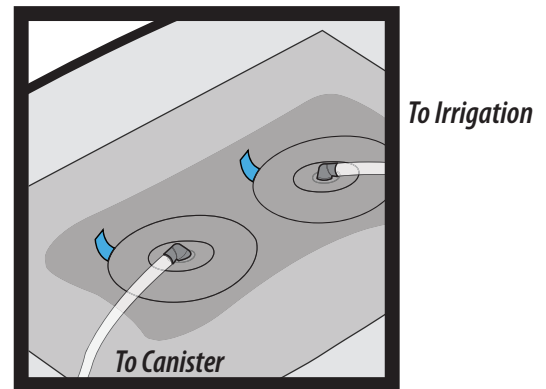

Figure 21
6. Peel the backing from the Irrigation SpeedConnect™ port and place over hole made in Step 6 (**Figures 19-20**). Using the tips of the fingers, gently press around the Irrigation SpeedConnect™ port to ensure a good seal to the dressing (**Figure 21**).